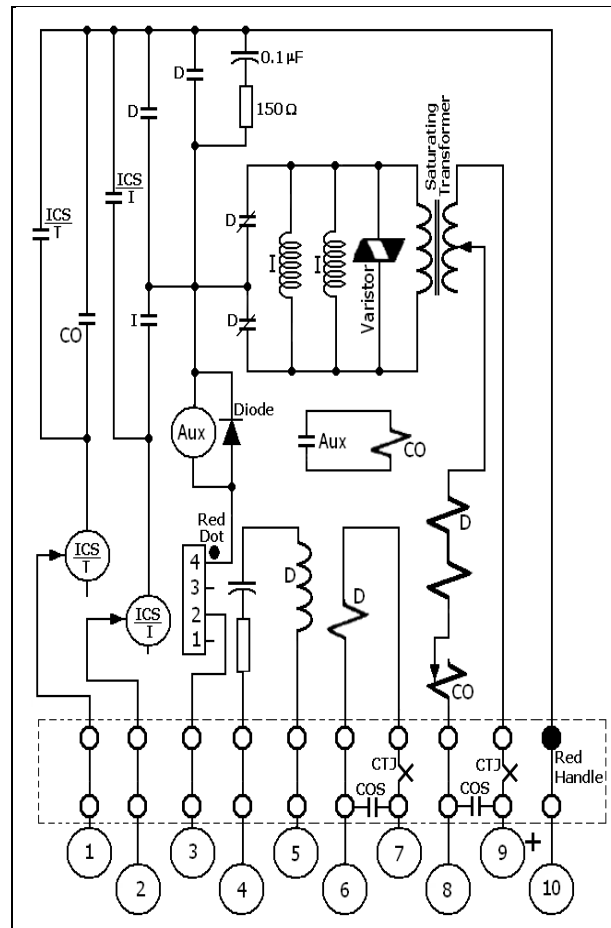

Fig. 1.4-15
10. Study the circuit shown in Fig. 1.4-15 and answer the following: